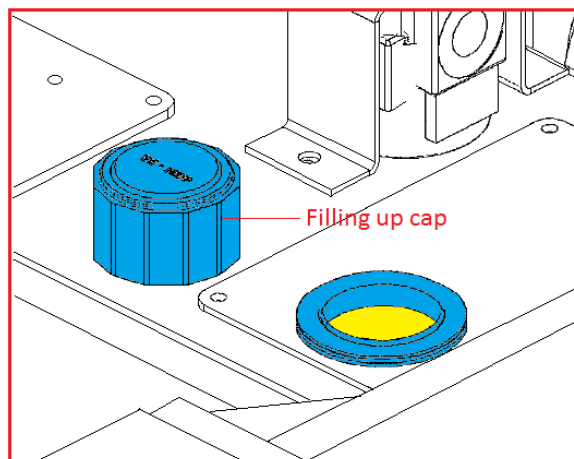

Figure-59-a:
1. First remove the oil tank cap (Filling up point in Figure-59-a ).
- Open the valve under the oil tank to drain out the old oil completely (Draining off point in Figure-59-b).